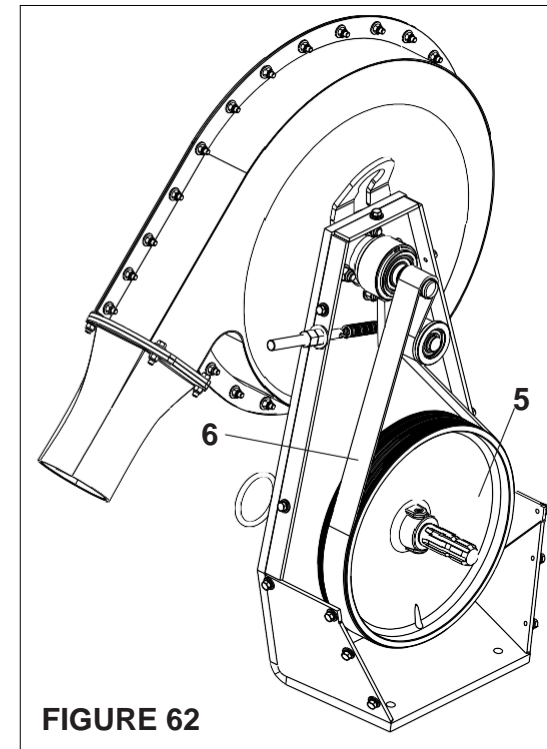

FIGURE 62
COMPENSATION OF ROTATION (FIGURE 62)
14 - Replace the pulley (5) and the belt (6), which are found in the optional module parts catalogue. (FIGURE 62)